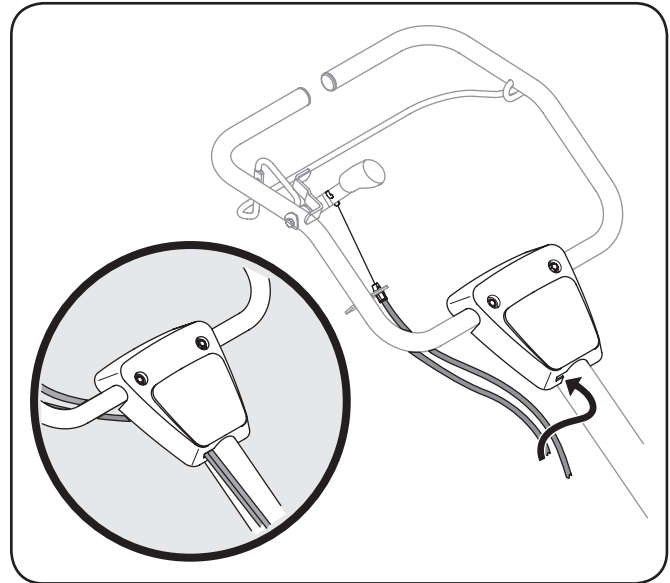

Figure 3-3
5. Clip the cables into the cable guides located on the handle assembly panel as seen in Fig. 3-3.